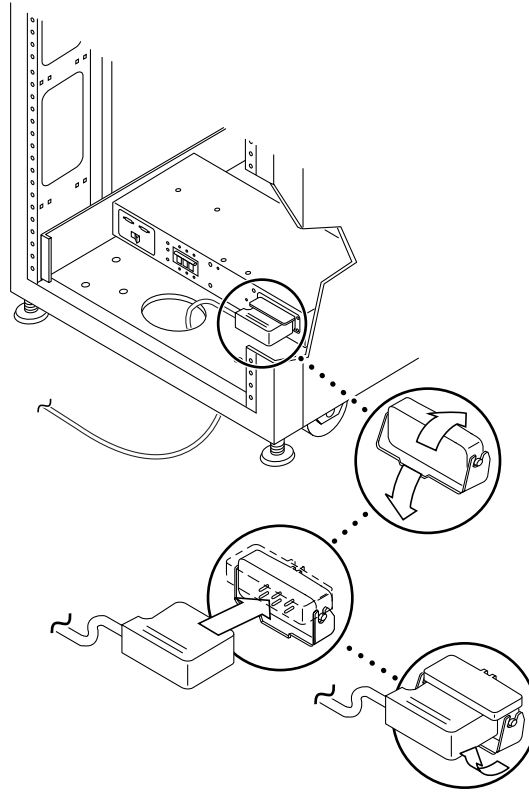

FIGURE 3-3 Connecting the AC Power Cord
5. Connect the female end of each AC power cord to the power sequencer connectors (FIGURE 3-3).